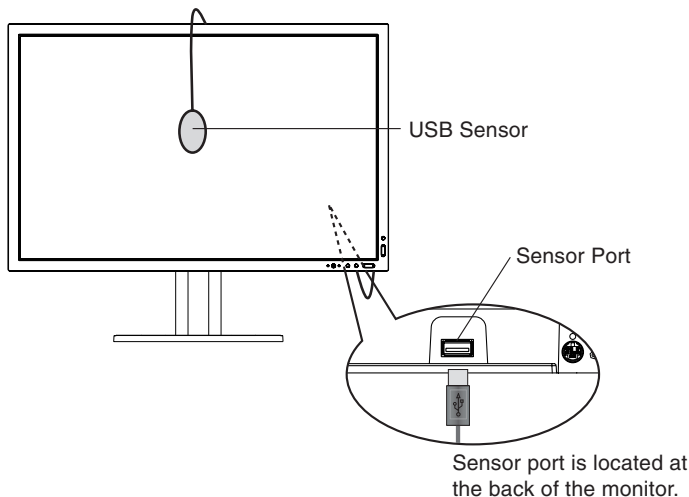

Figure S.1
1. Plug-in the USB sensor to the sensor port (**Figure S.1**).
7. The procedure will ask for the USB sensor to be placed on the center of the display panel (**Figure S.7**). Tilt the display panel approximately 5° backward and place the USB sensor in the center of the display panel (**Figure S.1**).